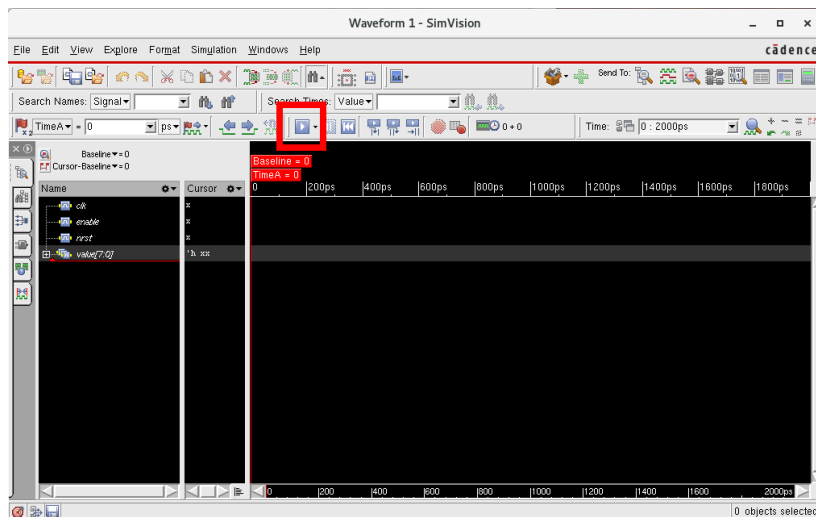

Figure 29: Waveform window
9. The waveform window shown in Figure 29 will open. To start the simulation press the play-button. The counter we are simulating, is a very simple circuit. Hence the simulation will be very fast. Press the pause-button next to the play-button to pause the simulation. Now we can take a closer look to the simulation results.